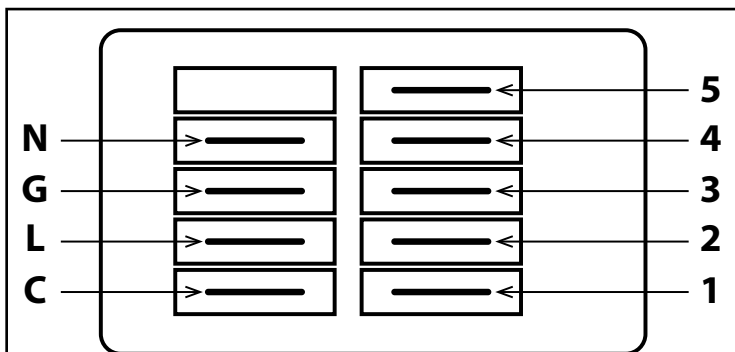

Figure 23: Constant Torque Motor Terminals
The constant torque motor operates on 208/240 VAC and the motor speed taps are controlled by 24 VAC. The speed taps can be changed by moving the ORANGE, BLACK, and RED wires to different terminals on the motor terminal block (terminals 1 – 5). Figure 23 shows the constant torque motor lead connection labeling. Refer to Table 15 for the correct speed tap selections for the specific model being installed.
4. Move the BLACK and RED wires connected to terminals 1 - 5 on the motor terminal block (See Figure 23) to the desired speed taps. See Table 15 for the speed tap descriptions and connections.